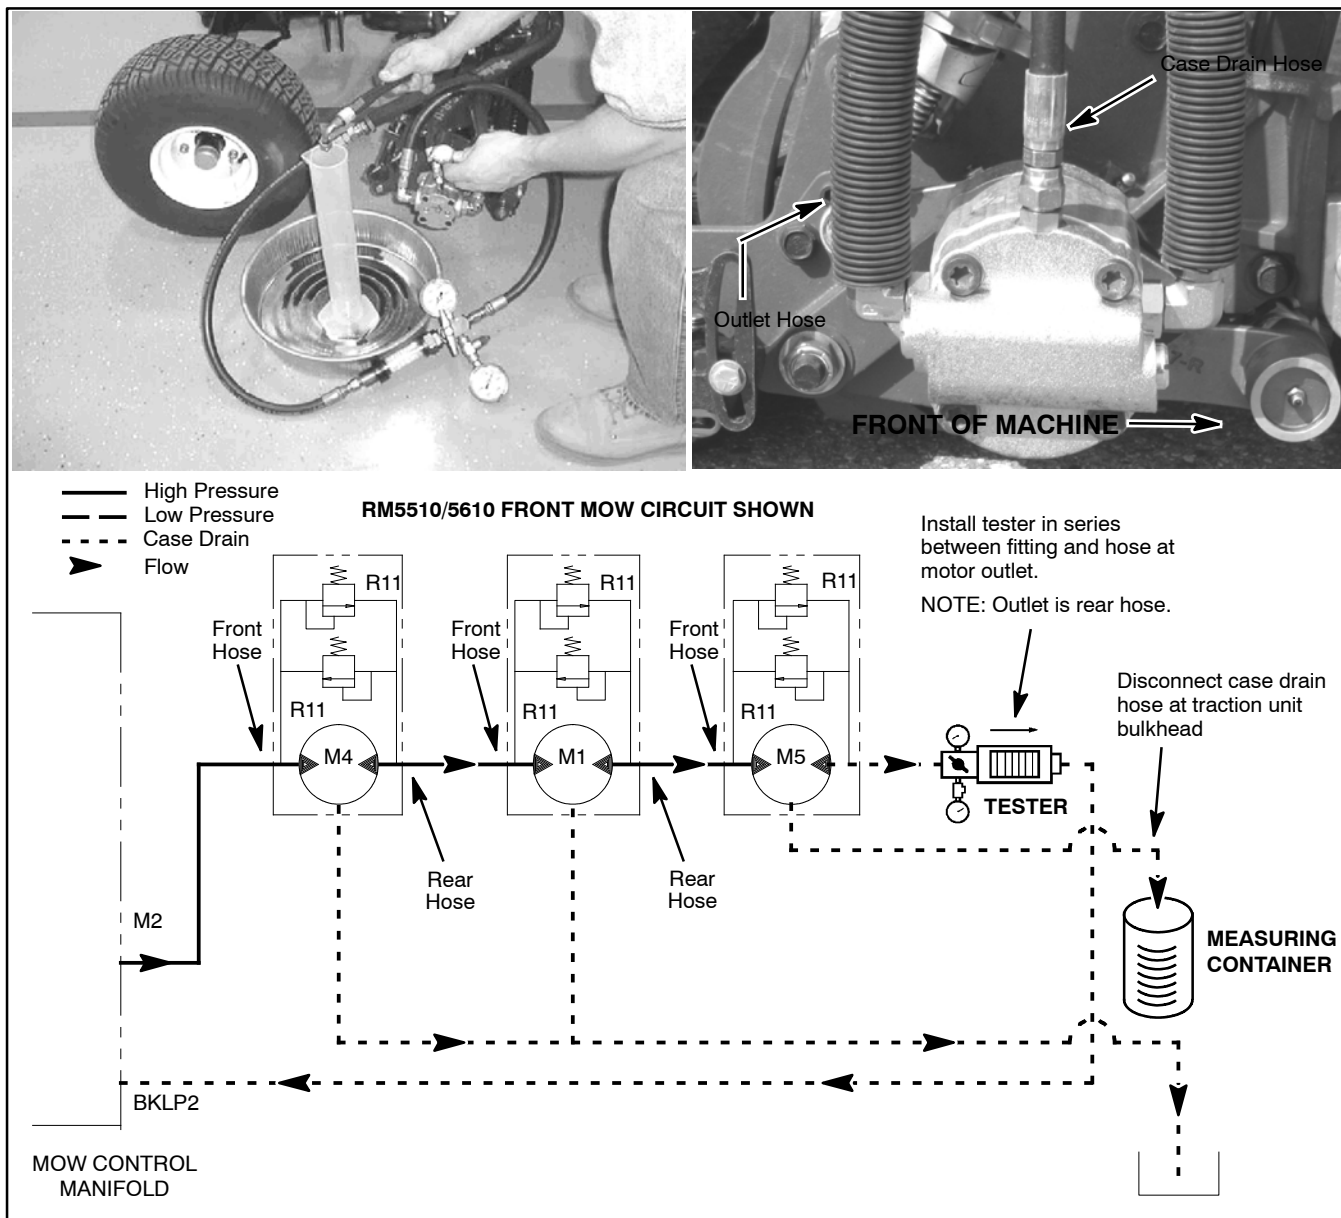

Figure 41
**NOTE:** Use a graduated container, special tool TOR4077, to measure case drain leakage (Fig. 41).